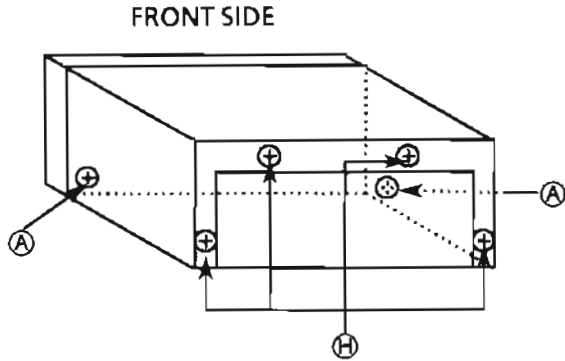

Fig.1
### (2) Life of the laser diode (Fig.1)
(Fig.1)